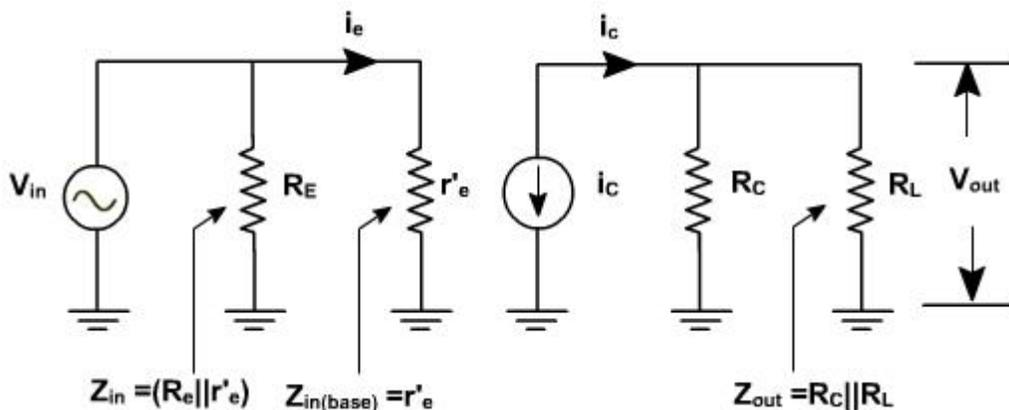

**Fig. 1**
**Fig 1. 8** shows the CE amplifier equivalent circuit in terms of h-parameters. Since  $1/h_{oe}$  in parallel with  $R_L$  is approximately equal to  $R_L$  if  $1/h_{oe} \gg R_L$  then  $h_{oe}$  may be neglected. Under these conditions.
The common base amplifier circuit is shown in Fig. 1. The  $V_{EE}$  source forward biases the emitter diode and  $V_{CC}$  source reverse biased collector diode. The ac source  $v_{in}$  is connected to emitter through a coupling capacitor so that it blocks dc. This ac voltage produces small fluctuation in currents and voltages. The load resistance  $R_L$  is also connected to collector through coupling capacitor so the fluctuation in collector base voltage will be observed across  $R_L$ .